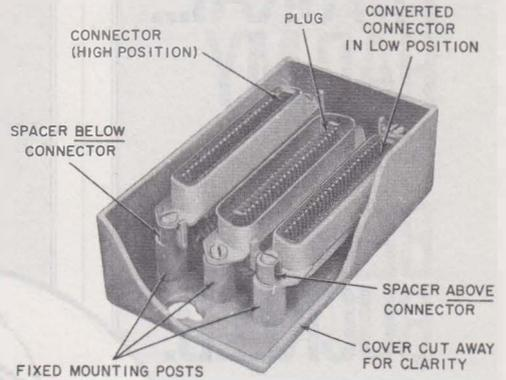

Fig. 16—Adapter After Conversion
(2) Remove spacers. Connector can then be depressed to its lowest mounting position to receive the B25A connector cable plug.
(3) Place removed spacers on top of the connector end tabs (Fig. 16) and tighten connector mounting screws.